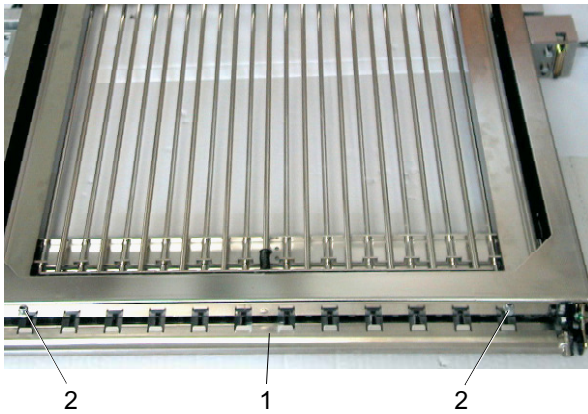
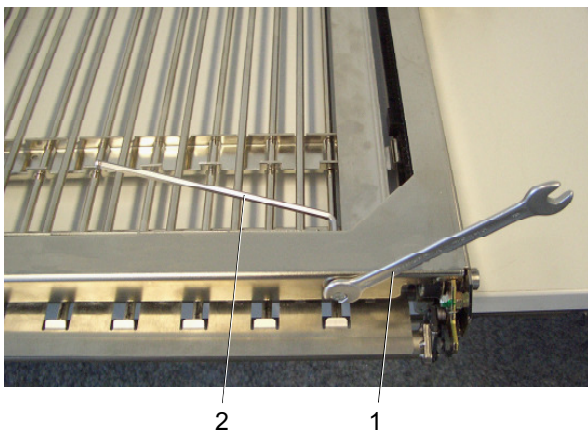

Fig. 60 Fold plate with lower lip pointing upwards
Fig. 61 Loosening the lower screws
3. Place the fold plate on a flat surface with the adjustable lower lip (Fig. 60/1) pointing upwards.
4. In the lower section of the fold plate, loosen the two screws (Fig. 60/2) which are fixed in an oval hole. To do this, use an 8 mm open-end wrench (Fig 61/1) and a 4 mm Allen key (Fig. 61/2).